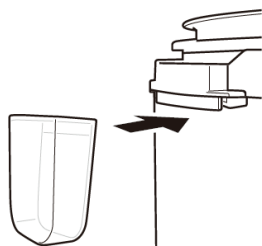

Fig 1
2. Place the condensate container in the appliance as shown in the Fig. 1.
1. Scan QR code, see below (fig. 1) or find Concept Home app in Google Play or App Store and download the app to your smartphone. If you already have Concept Home, open the app, log in and follow the instructions for correct pairing.